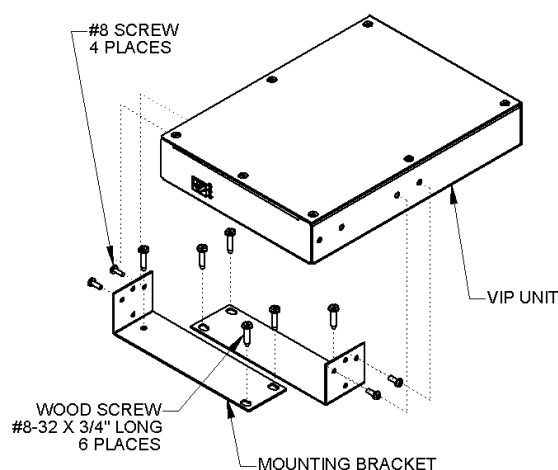

Figure 2. Wall Mount
**Wall:** Using the template on last page of this document, mark the location of the bracket screw holes on the wall. Drill 5/64" pilot holes, 3/4" deep, at each screw location and use the wood screws provided to attach the brackets to the wall. For surfaces other than wood, use hardware appropriate for the surface (not included). With the brackets securely attached to the wall, attach the VIP-804A to the brackets using the included hardware. Figure 2 illustrates the bracket assembly.